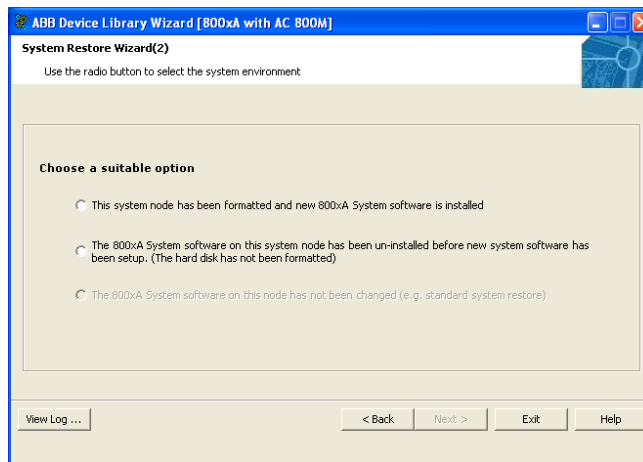

Figure 42. System Restore Wizard (2)
3. Choose whether or not this system node has been reformatted as shown in Figure 42 and click **Next**.
If the system node has not been reformatted (second option in Figure 42), all Device Types that exist in the 800xA System node and need updated are displayed in the **Update** tab (Figure 45).